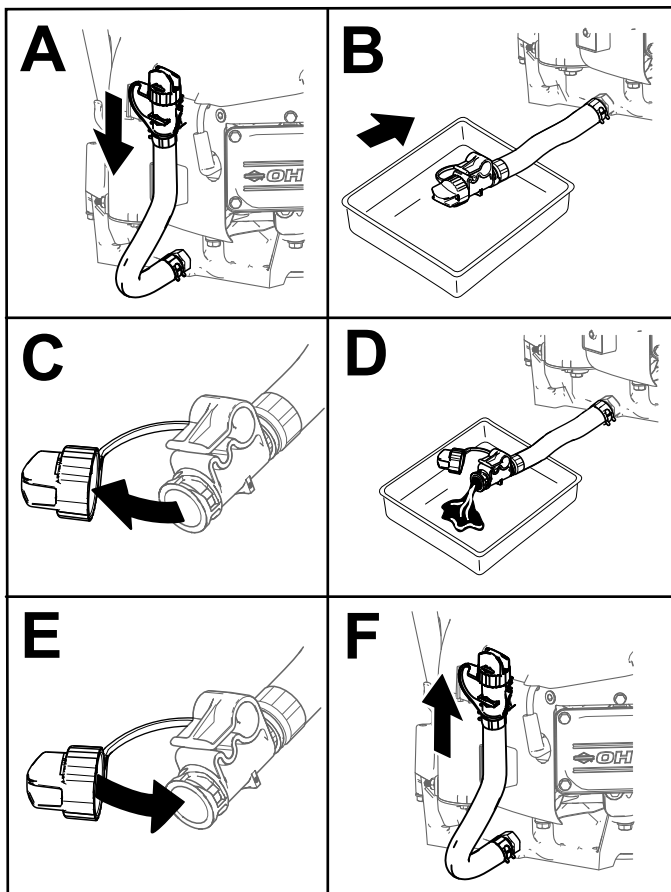

Figure 41
4. Drain the oil from the engine (Figure 41).